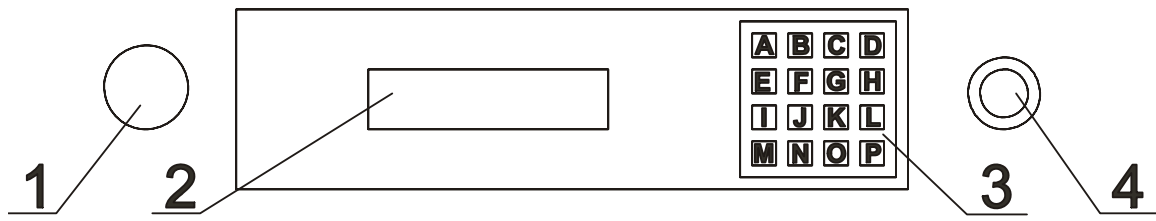

Fig. 4.1.A
3. Check if the Emergency button is not lit up on the machine. If it is on, turn on the machine by pulling out this button (fig. 4.1.A, pos.1). On machines with steam/gas heating, open the steam/gas supply valve first.
4. The display (2) will shortly read the software version and then the main menu: